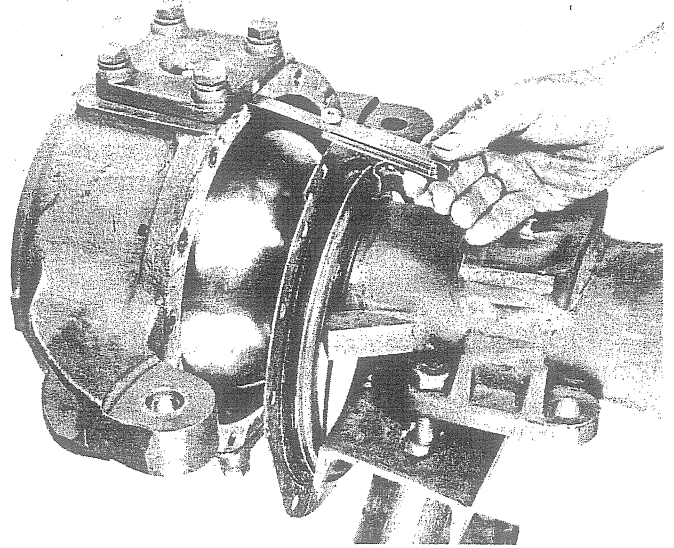

Fig. 92 - Determining Thickness of Shim Required
12. Use a feeler gauge, as shown in Fig. 92, to determine the thickness of shims required (between upper trunnion and spindle support) to obtain this correct trunnion bearing preload.